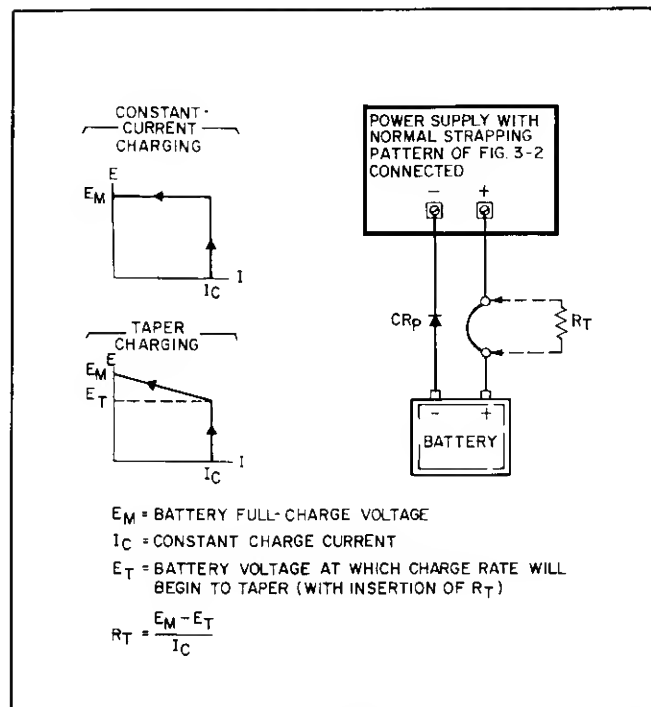

Figure 3-16. Battery Charging
Any time these supplies are used to charge a battery, be sure to install a protective diode CR_p in series with the battery as shown in Figure 3-16 to prevent the battery from discharging into the supply if the supply is turned off. Extensive damage to the supply could result if this diode were omitted.
- Connect a short circuit across the output terminals and rotate the VOLTAGE control fully clockwise (CW).
- Adjust the VOLTAGE control for an output voltage 0.7 volts greater than the desired full charge voltage. (The added 0.7 volts compensates for the drop across CR_p .) The supply may then be connected to the battery terminals, positive to positive and negative to negative as shown in Figure 3-16 (omit R_T).
3-90 Taper Charge. When charging lead-acid cells, many manufacturers recommend that the charging current be reduced as the charge nears completion. This can be accomplished by inserting a small resistance (R_T) in series with one of the load leads from the supply to the battery. (See Figure 3-16.) This resistor alters the normally rectangular charging plot in such a manner as to provide a taper charge for the last portion of the charge. The proper value for this resistor is the difference between the full charge voltage and the voltage at which the tapering is to start, divided by the initial charging current. Set the initial charging rate and full charge voltage as instructed in paragraph 3-89.